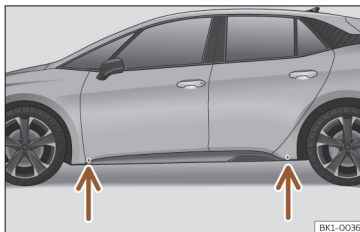

Fig. 195 Jack position points.
- Look on the strut for the mark of the jack support point (sunken area) closest to the wheel to be changed >>> **Fig. 195.**